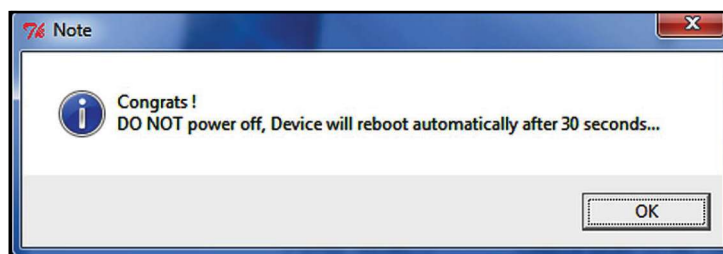

Figure 38: Reboot Message
7. After the progress bar indicates that the firmware update is 100% complete (about 10 minutes), the message shown in *Figure 38* below will be displayed. Note that the AT600 will automatically reboot in 30 seconds.